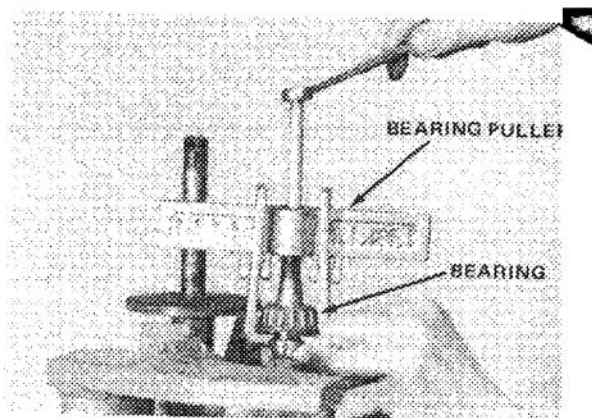

Figure 37
20. Using a bearing puller, remove bearing cone and seal from reel shaft (Fig. 37). Discard seal and "O" ring in the adjusting nut. Examine bearing cone carefully; discard if damaged.